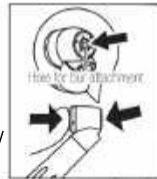

Fig. 13
1) Lubricate the chuck with 1-2 drops of SABRA CARE Plus oil drops (included with your handpiece) directly through the bur insertion hole. (Fig 13)